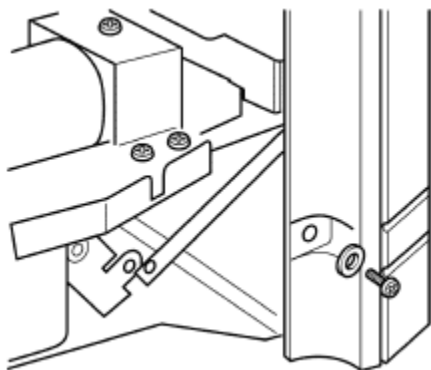

Figure 37. Fascia fixing.
2. Remove the two screws and washers securing the bottom of the fascia to the sides of the convection box (See figure 37).